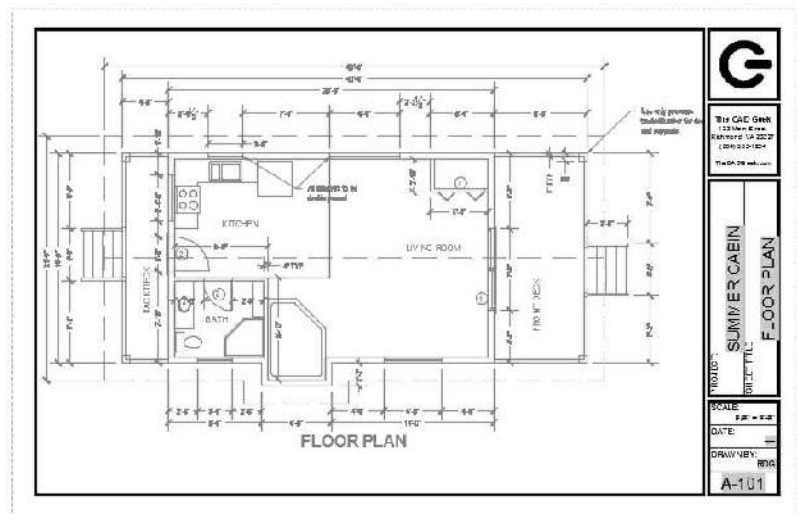

FIGURE 15.1: The A-101 layout showing the floor plan
1. Open I-A-100.dwg (M-A-100.dwg), shown in Figure 15.1. Click the A-101 layout to make it active and ensure that you are in paper space.